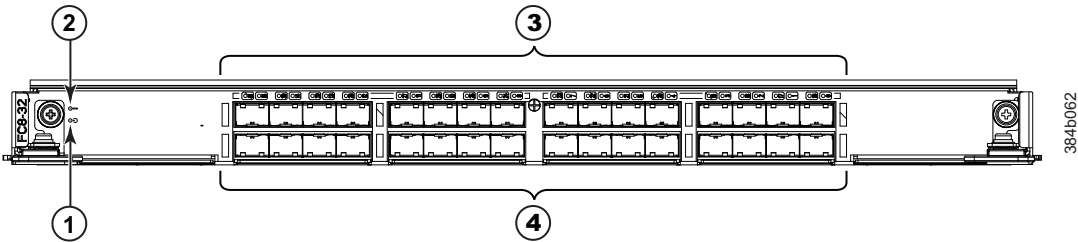

Figure 56. FC8-32 port blade
- Figure 56 shows an FC8-32 port blade